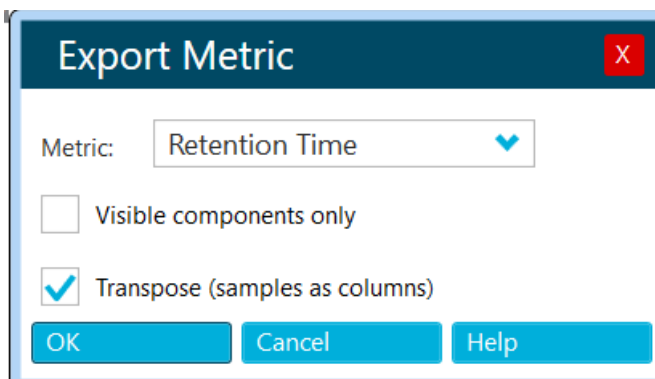

Figure 9.2. Exporting the Results from SCIEX OS Software for use in sMRM Pro Builder.
7. Process the data in SCIEX OS Software (Section 8), then export the results for analysis in the sMRM Pro Builder. Select Reporting → Export Results → Results Table – Metric, then export the Area, Retention Time, Width at 50% as shown in **Figure 9.2**.